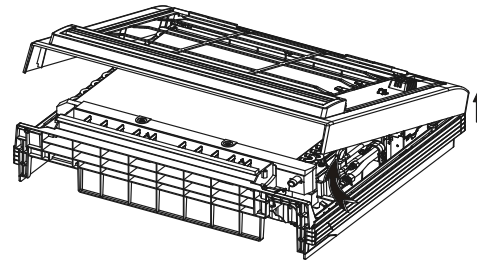

Fig.50-8
- Opening bottom of face plate for a angle that is 30 degrees, then the top of face plate will be take up. (Refer to Fig.50-8)